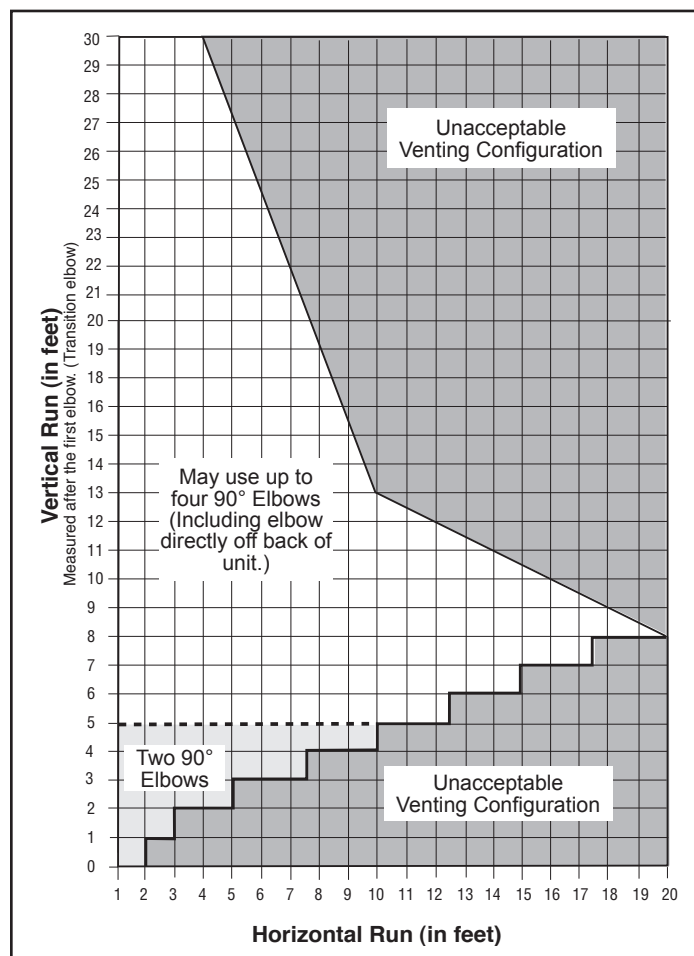
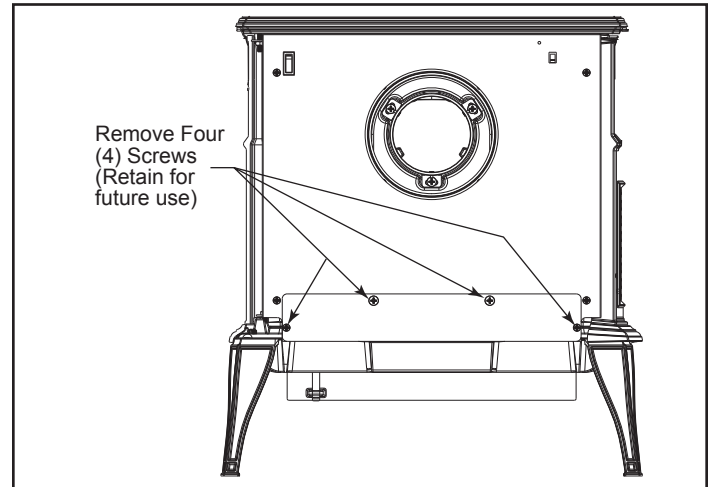

Figure 7 - Horizontal vent termination window.
Figure 11 - Remove four (4) screws holding rear fan cover in place. Retain for future use.
The vent must rise vertically a minimum of 24" (610 mm) after the first elbow directly off the back of the unit, before the next elbow. The horizontal run may extend up to 20' (6 m) and include a vertical rise of up to 40' (12 m), Figure 7. Horizontal termination must also meet the criteria shown in Figures 11 and 12.
- Approved vent systems must terminate above and including the heavy line in Figure 7.
When planning the installation, consider the location of the vent terminal and clearances. Some of the most common clearances to keep in mind are shown in Figure 11.
1. Remove the rear fan cover by removing the four (4) screws holding the cover in place on the rear shroud, Figure 11. Retain the screws for future use.